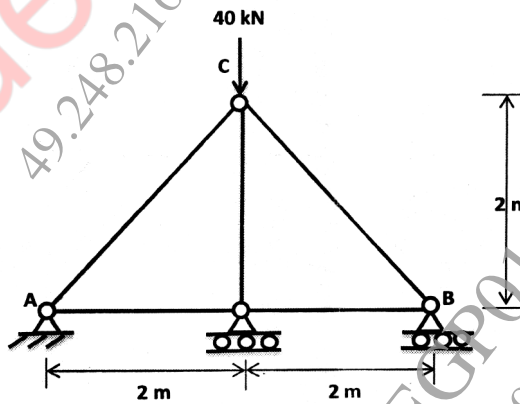

Fig. 6
- (b) Analyse the truss shown in Fig. 6. Take constant  $AE$ . [6]